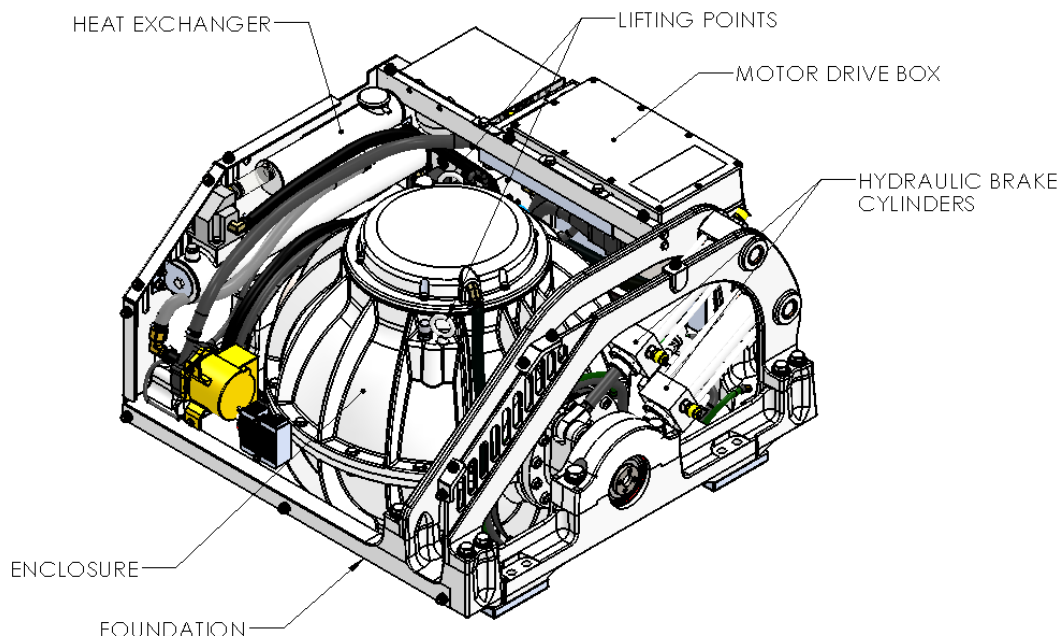

FIGURE 1 – SEAKEEPER 5 GYRO
- While handling / installing gyro assembly, protect exposed hydraulic brake cylinder rods (See Figure 1) from scratches or damage as this could lead to premature seal failure and oil leaks.